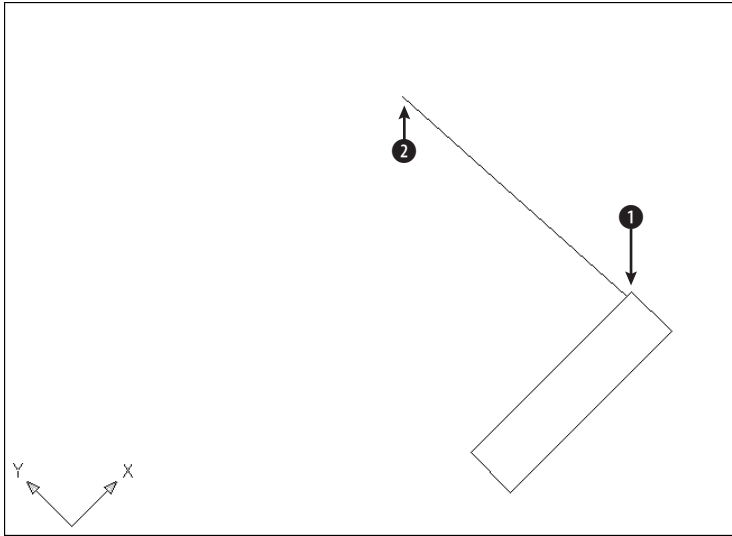

Figure 8-25: Starting to draw the framework for the bearing housing drawn by using a customized UCS
6. Start the LINE command. At the Specify first point: prompt, choose the From object snap. At the Base point: prompt, use the Endpoint object snap to pick point ❶ in Figure 8-25. At the <Offset>: prompt, type **@-1/8,0** ↵. At the Specify next point or [Undo]: prompt, type **@5-3/16<93.3** ↵. End the LINE command.